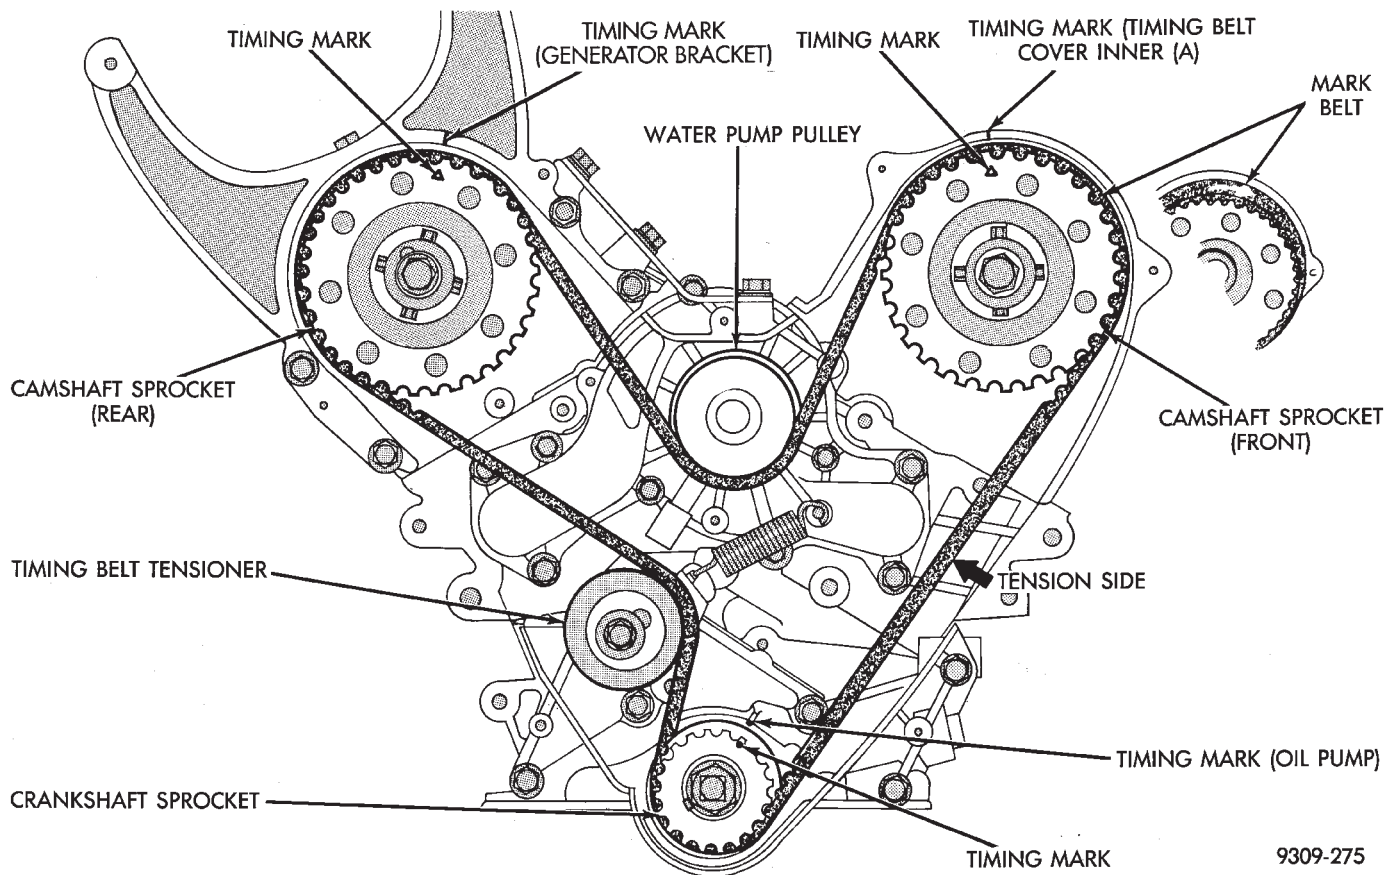

Fig. 14 Timing Belt Engine Sprocket Timing
- (1) Mark belt running direction for installation (Fig. 14).
- (1) Install timing belt on crankshaft sprocket first and while keeping belt tight on tension side (Fig. 14) install belt on the front (radiator side) camshaft sprocket.
(2) Then, install on the water pump pulley and on the rear camshaft sprocket and finally on the timing belt tensioner.
(3) Apply rotating force to the front camshaft sprocket in opposite direction to tension the belt tensioner side, check that all timing marks are lined up (Fig. 14).